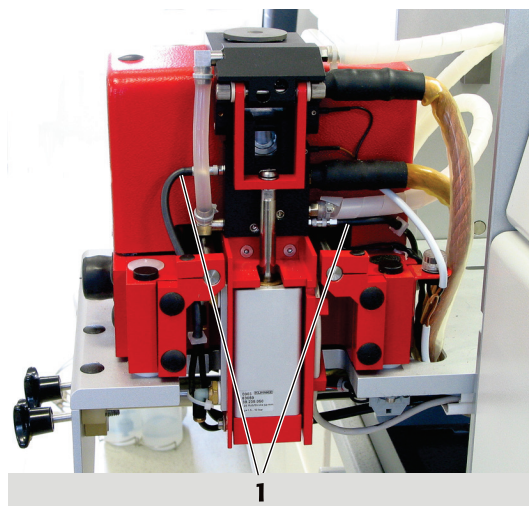

Fig. 48 Driven-out furnace, right side
5. Attach both gas tubes onto the right side of the furnace (Fig. 48).